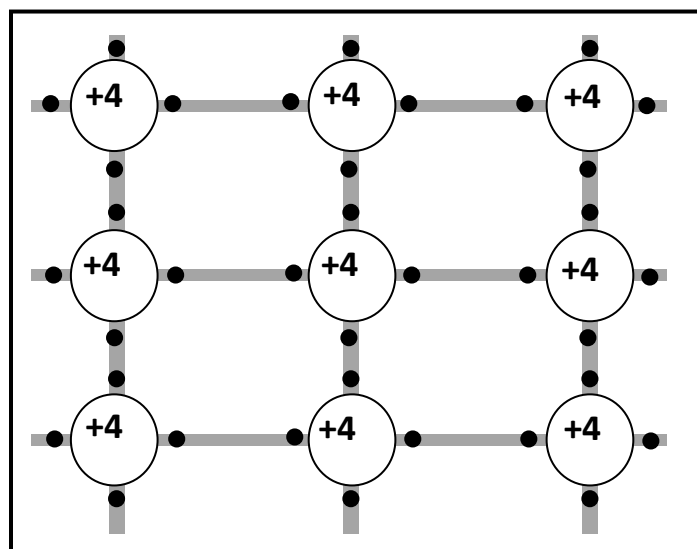
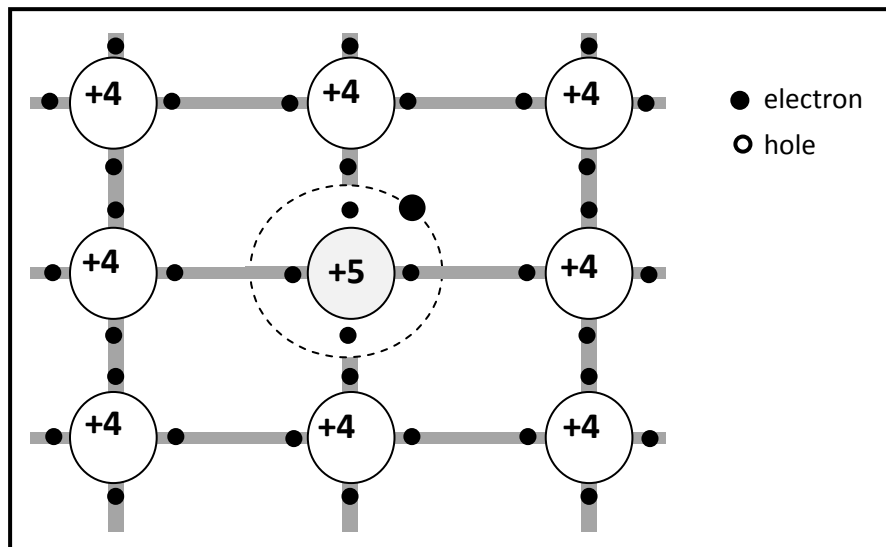

Figure 4. Pure silicon atoms with four electrons in the valence band.
Figure 8. Silicon doped with Phosphorus to make an n-type semiconductor with surplus of electrons.
You have seen the atomic structure of silicon in figure 4 on the previous page. Silicon belongs to Group IV of the periodic table, which means that the silicon atom has four (4) electrons available for bonding with other silicon atoms (see Figure 8). However, some electrons in the valence band can acquire enough thermal energy to jump across the small gap into the conduction band. The number of conduction electrons that result is much less than for a conductor, so a semiconductor is a much poorer conductor than a metal but a better conductor than an insulator such as plastic or glass.
Phosphorus is in Group V of the periodic table and has 5 electrons available for bonding, but it can only bond with 4 atoms of silicon. It leaves **one electron** unbonded, (see Figure 8). This semiconductor is called an **n-type semiconductor**. The 'n' represents the negative charge of the unbonded electron. Phosphorus is a donor impurity or dopant.